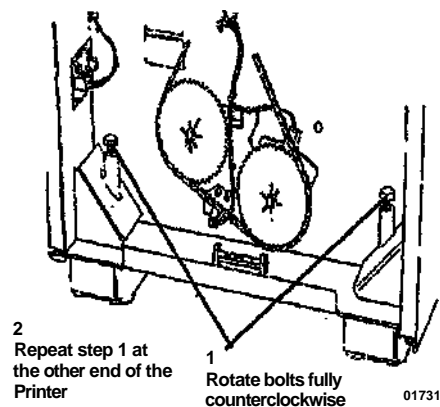

Figure 1. Raising the Leveling Bolts
14. (Figure 1): Raise the leveling bolts.